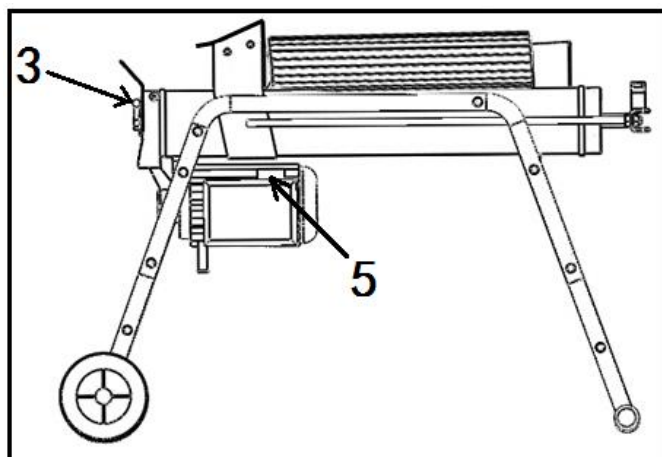

Fig .8
This log splitter is equipped with control system that requires to be operated by both hands of the user – left hand controls the hydraulic control lever (3) while right hand controls the push button switch (5) as shown in Fig. 8. The log splitter